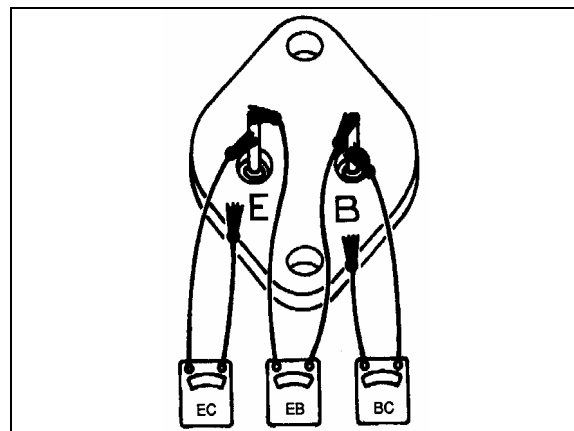

FIGURE 37: CHECKING TRANSISTOR TR1
- B) By removing any retaining screws involved and unsoldering the connections. When resoldering, limit solder time to a minimum as excessive heat may damage the printed circuit board and component parts. However good soldered connections are essential for satisfactory operation. A resin core 63% tin 37% lead solder with a 360°F (182°C) melting point is recommended along with a soldering iron rated at 50 watts or less. Use extreme care to avoid overheating. Before checking the printed circuit board, remove transistor TR1, which must be checked separately. Connect the ohmmeter as shown in figure 37, and then reverse the ohmmeter leads to obtain two readings on the same component. Use the middle scale on scale-type meters on which the 300 ohm value should be within or nearly within, the middle third of scale.
Transistor TR1 = See figure 37. Use the low scale. Each of the three checks should read low and high. If not, replace TR1.